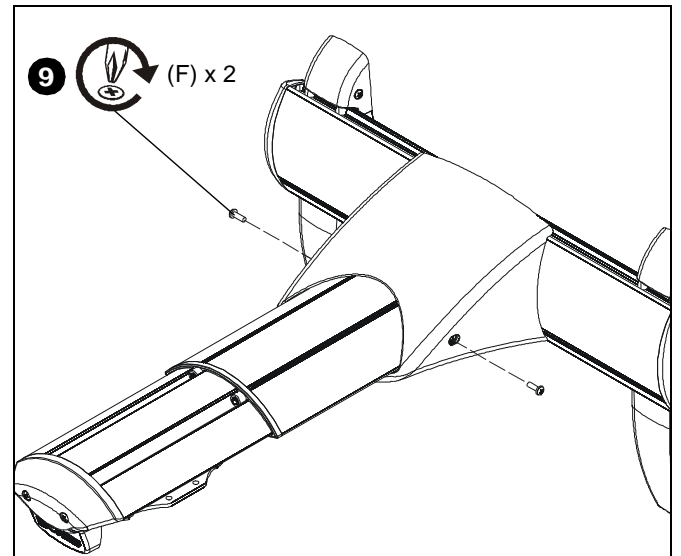

Figure 37
- Reinstall two #8-32 x 1/2" Phillips pan machine screws (F) through holes on sides of outer cover. (See Figure 37)
- Adjust mount to desired extension length. (See Figure 37)